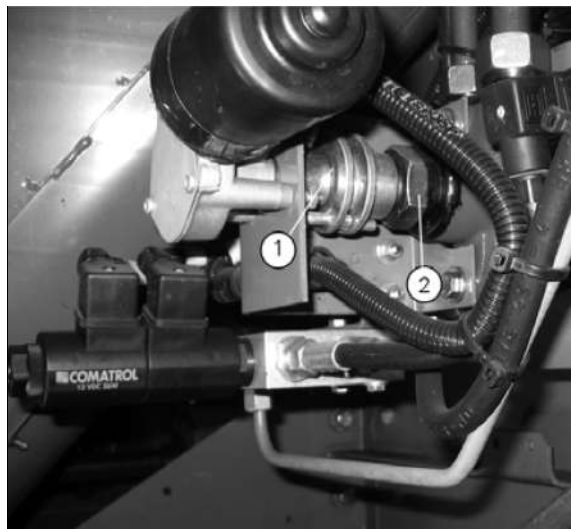

Fig. 2.
(fig. 2)
Clean and lubricate the threaded spindle and shaft on the flowdivider for reel speed control at (1) and (2), please see fig. 2. Start the diesel engine and move the threaded spindle completely out/in minimum 5 times.